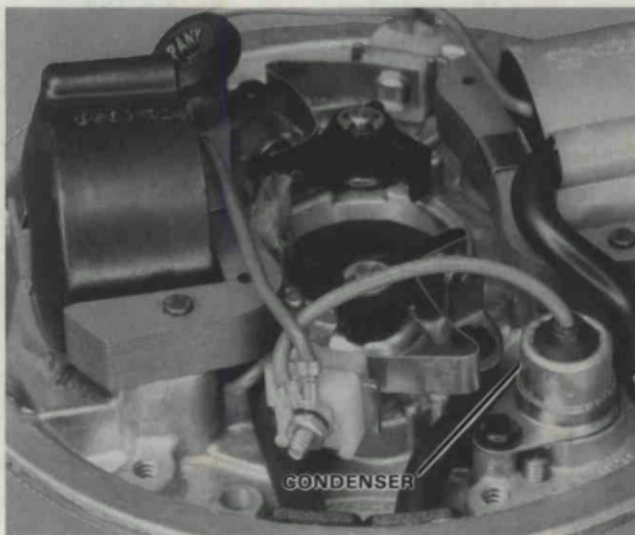

Figure 32. Installing Condenser.
2. Turn selector knob to "CONDENSER CAPACITY" position. Figure 32.
1. Install condenser on stator plate and secure with screw as shown in Figure 32.
6. Connect lead wire from top of coil to insulated terminal on breaker point as shown in Figure 32.